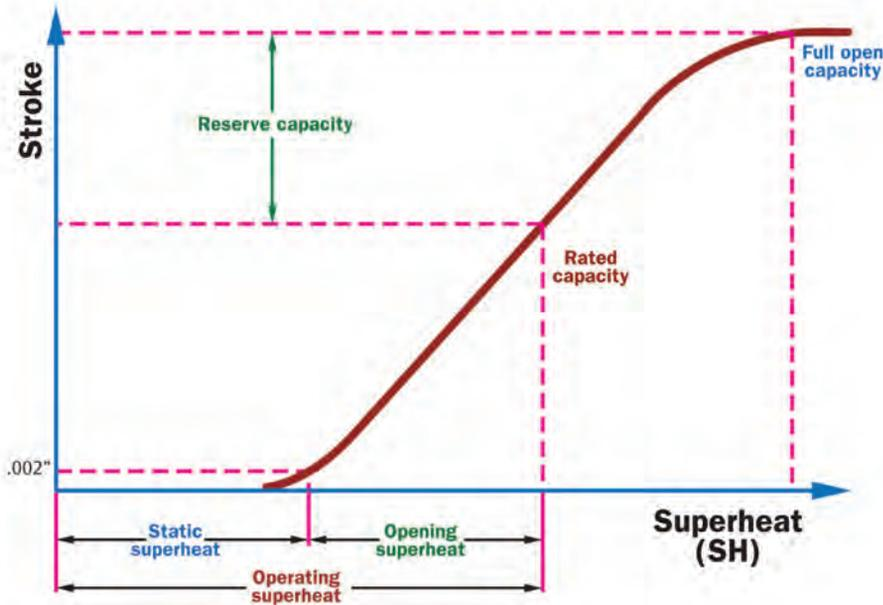

Figure 2
▶ **Gradient.** The amount of superheat required to move the pin from the static set point to the rated stroke is called gradient. Figure 2 depicts how a TXV regulates flow in response to changing superheat.